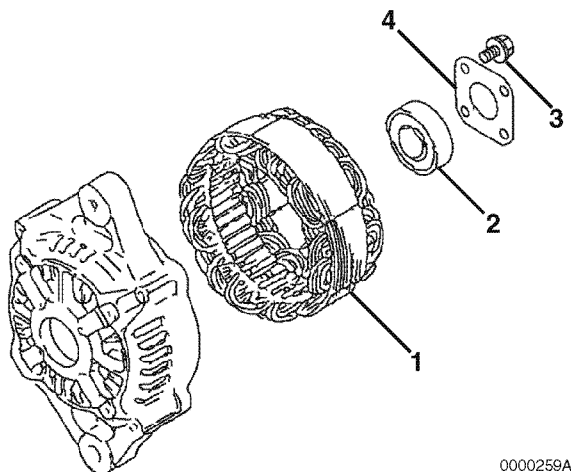

Figure 12-13
2. If removed, lubricate the outside diameter of a new front frame housing bearing. Press the bearing (**Figure 12-13, (2)**) into the front frame housing. Reinstall the plate (**Figure 12-13, (4)**) to the front housing. Tighten the four bolts (**Figure 12-13, (3)**).
3. Position the stator assembly (**Figure 12-13, (1)**) on the front frame housing studs.